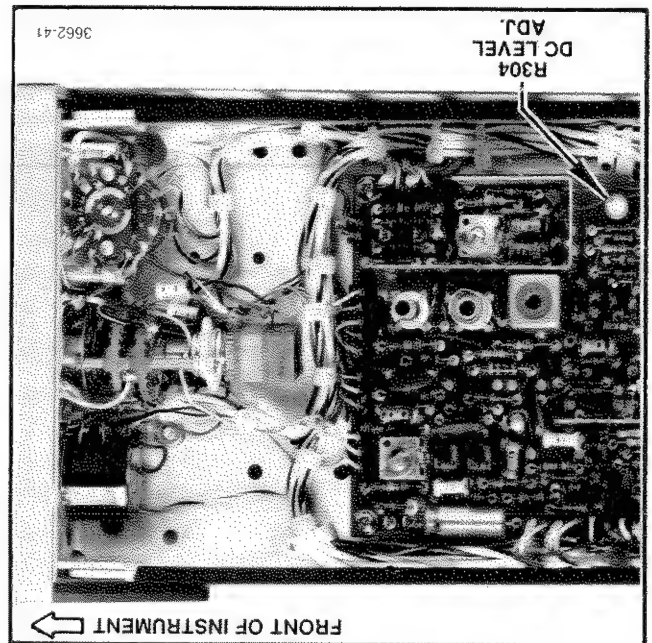

Fig. 3-9. Partial view of the Main board, showing location of the DC Level control (R304) near the front of the board.
3. Adjust the DC Level control R304 (see Fig. 3-9) so the display starts at the same point as the normal (2V or 2H) sweep.